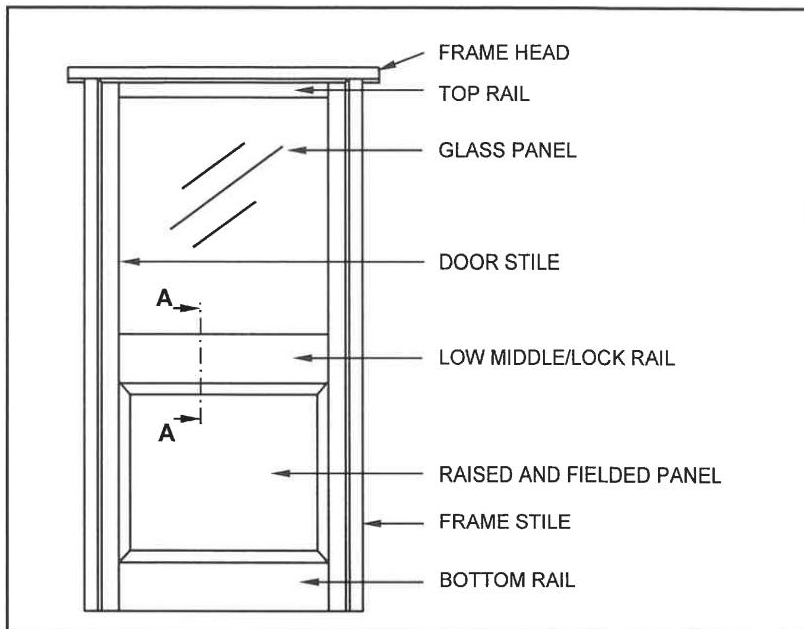

FIGURE 6.7
- 6.7 FIGURE 6.7 below shows the front elevation of an entrance door with a glass panel on top and a raised and fielded panel at the bottom.